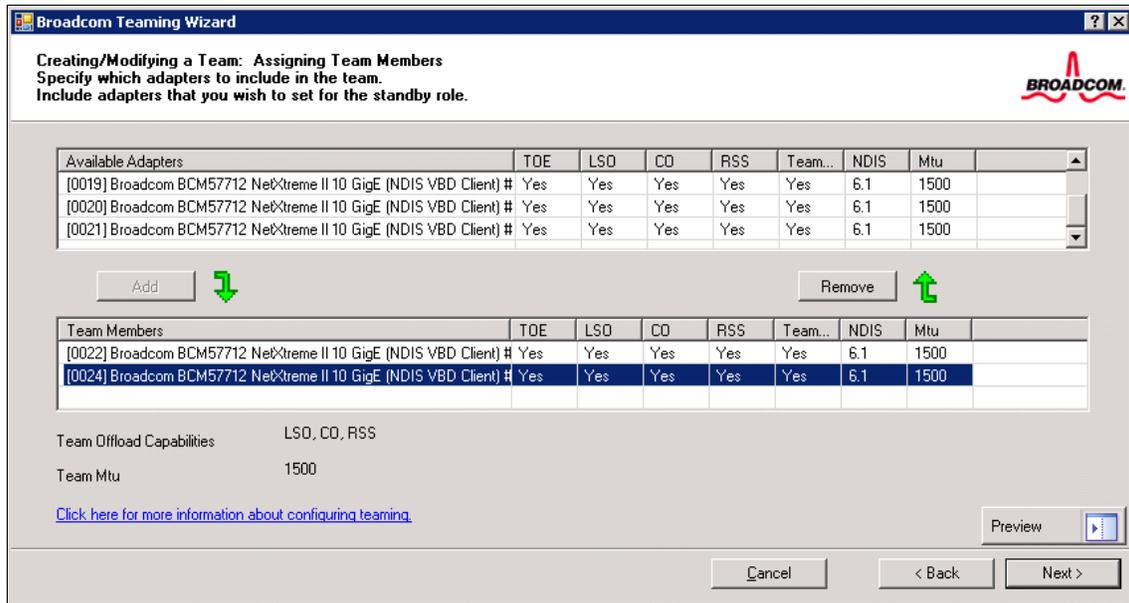

Figure 9-36 Creating/Modifying a Team: Assigning Team Members window
7. In the Creating/Modifying a Team window (Figure 9-36), assign team members: